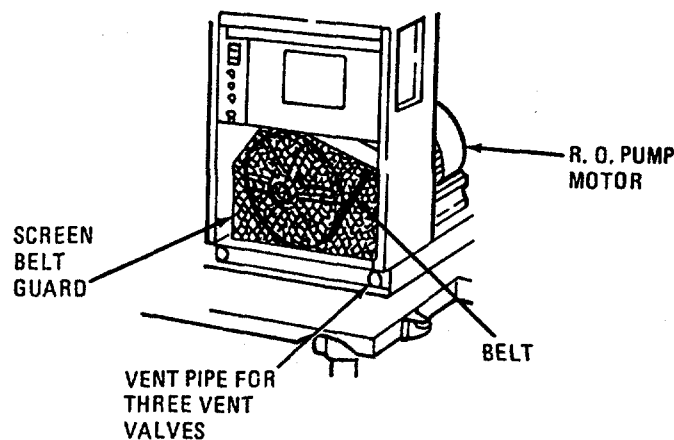

FIGURE 2-58. R. O. PUMP AND MOTOR
- (7) Set the VENT PULSE DAMPENER valve (figure 2-59) to CLOSE as soon as you see a full stream of water coming from the vent pipe (figure 2-58).